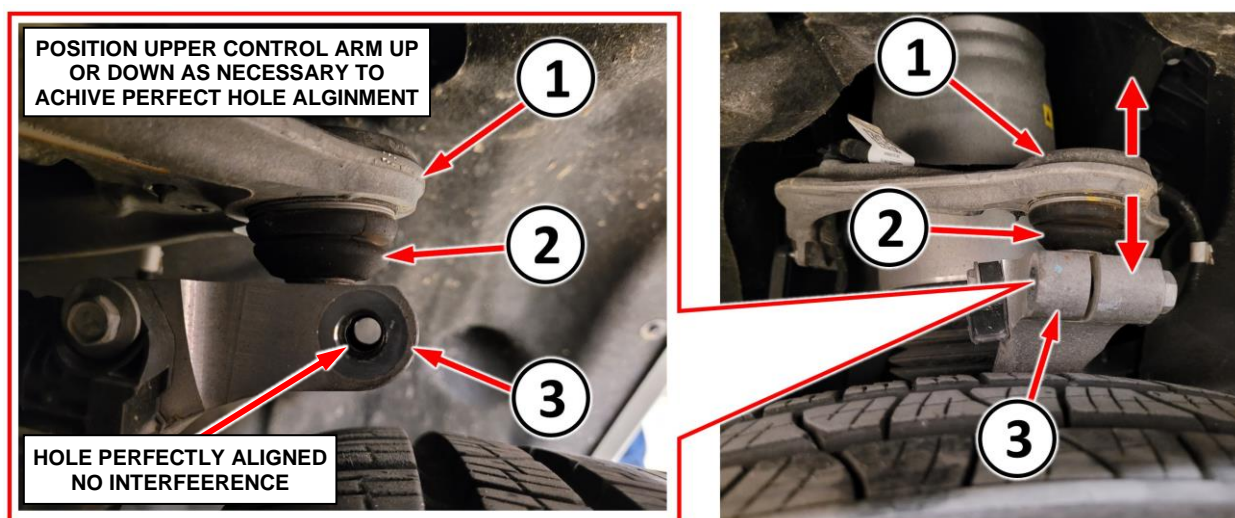

Figure 2 – Upper Steering Knuckle Pinch Joint Alignment
5. Perfectly align the bolt notch in the ball joint (2) with the hole in the steering knuckle (3) so the bolt can easily pass through the hole without any interference. It may be necessary to position the upper control arm (1) up or down slightly to achieve **PERFECT** bolt hole alignment (Figure 2).